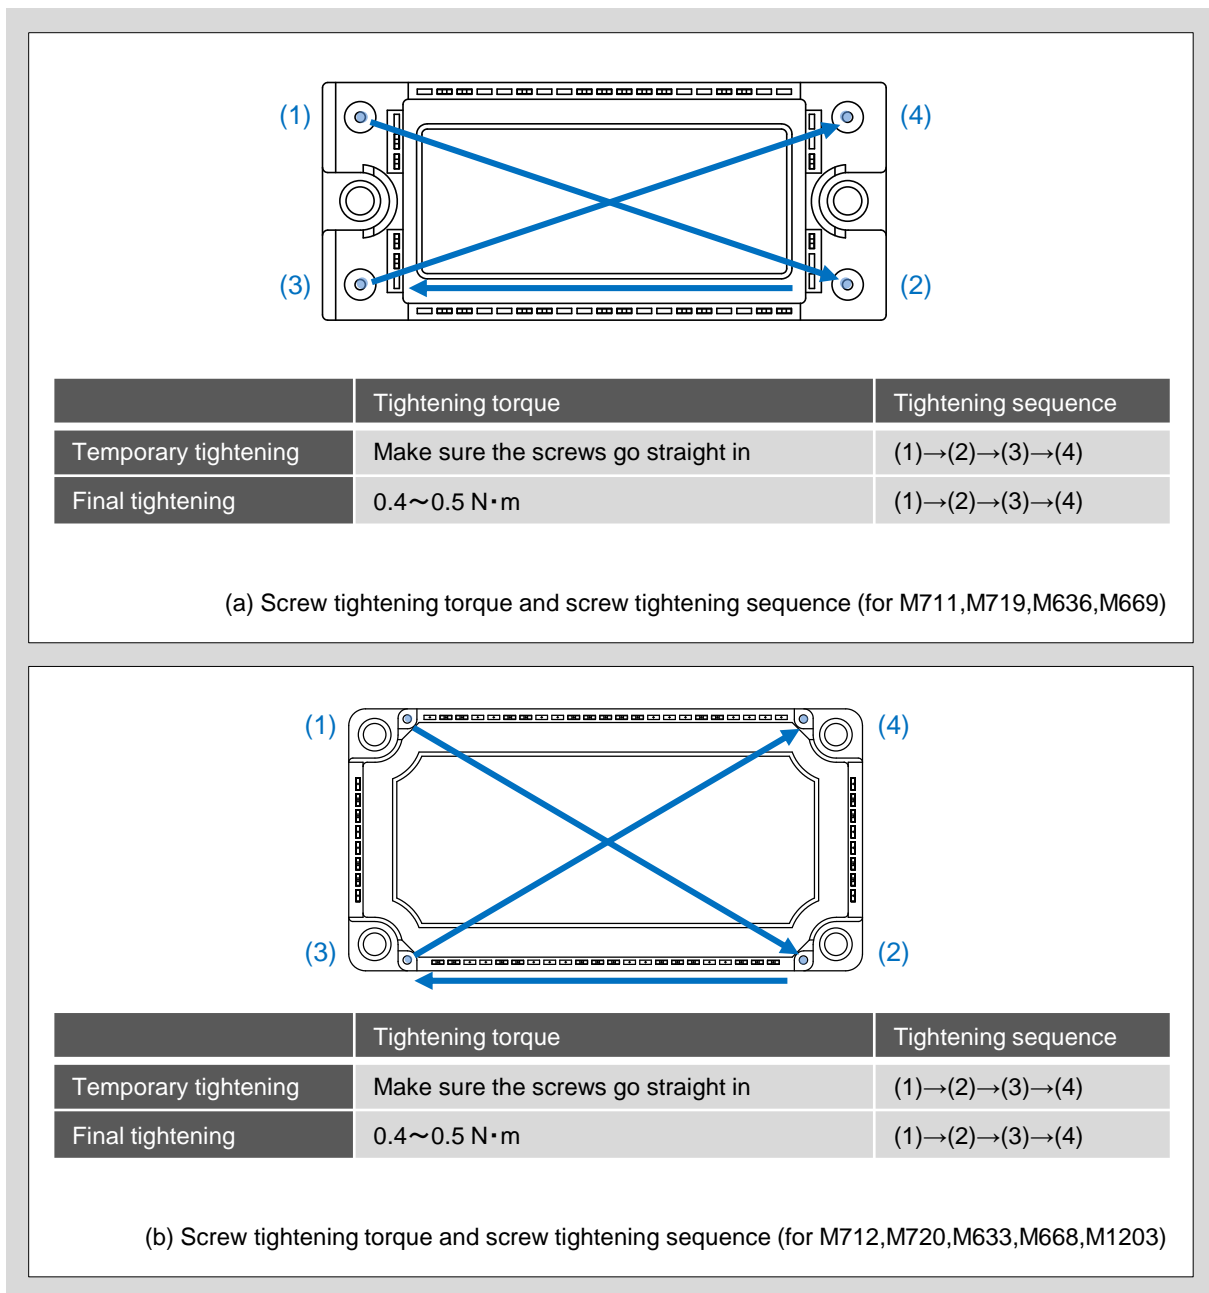

Fig.4 Screw tightening torque and screw tightening sequence
2. To fix the module with even force, first perform temporary tightening. Fig.4 shows the tightening torque and sequence.
3. Perform final tightening in the same sequence as temporary tightening. The final tightening torque should be within the range shown in Fig.4.